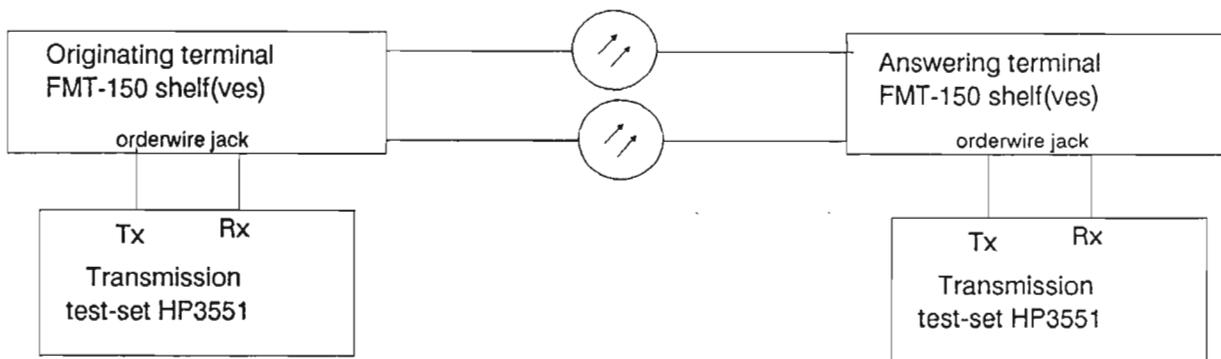

Figure 10
Ref. Fig. 10
1. At both terminal sites, connect voice-frequency transmission test sets, as shown in Fig. 10.